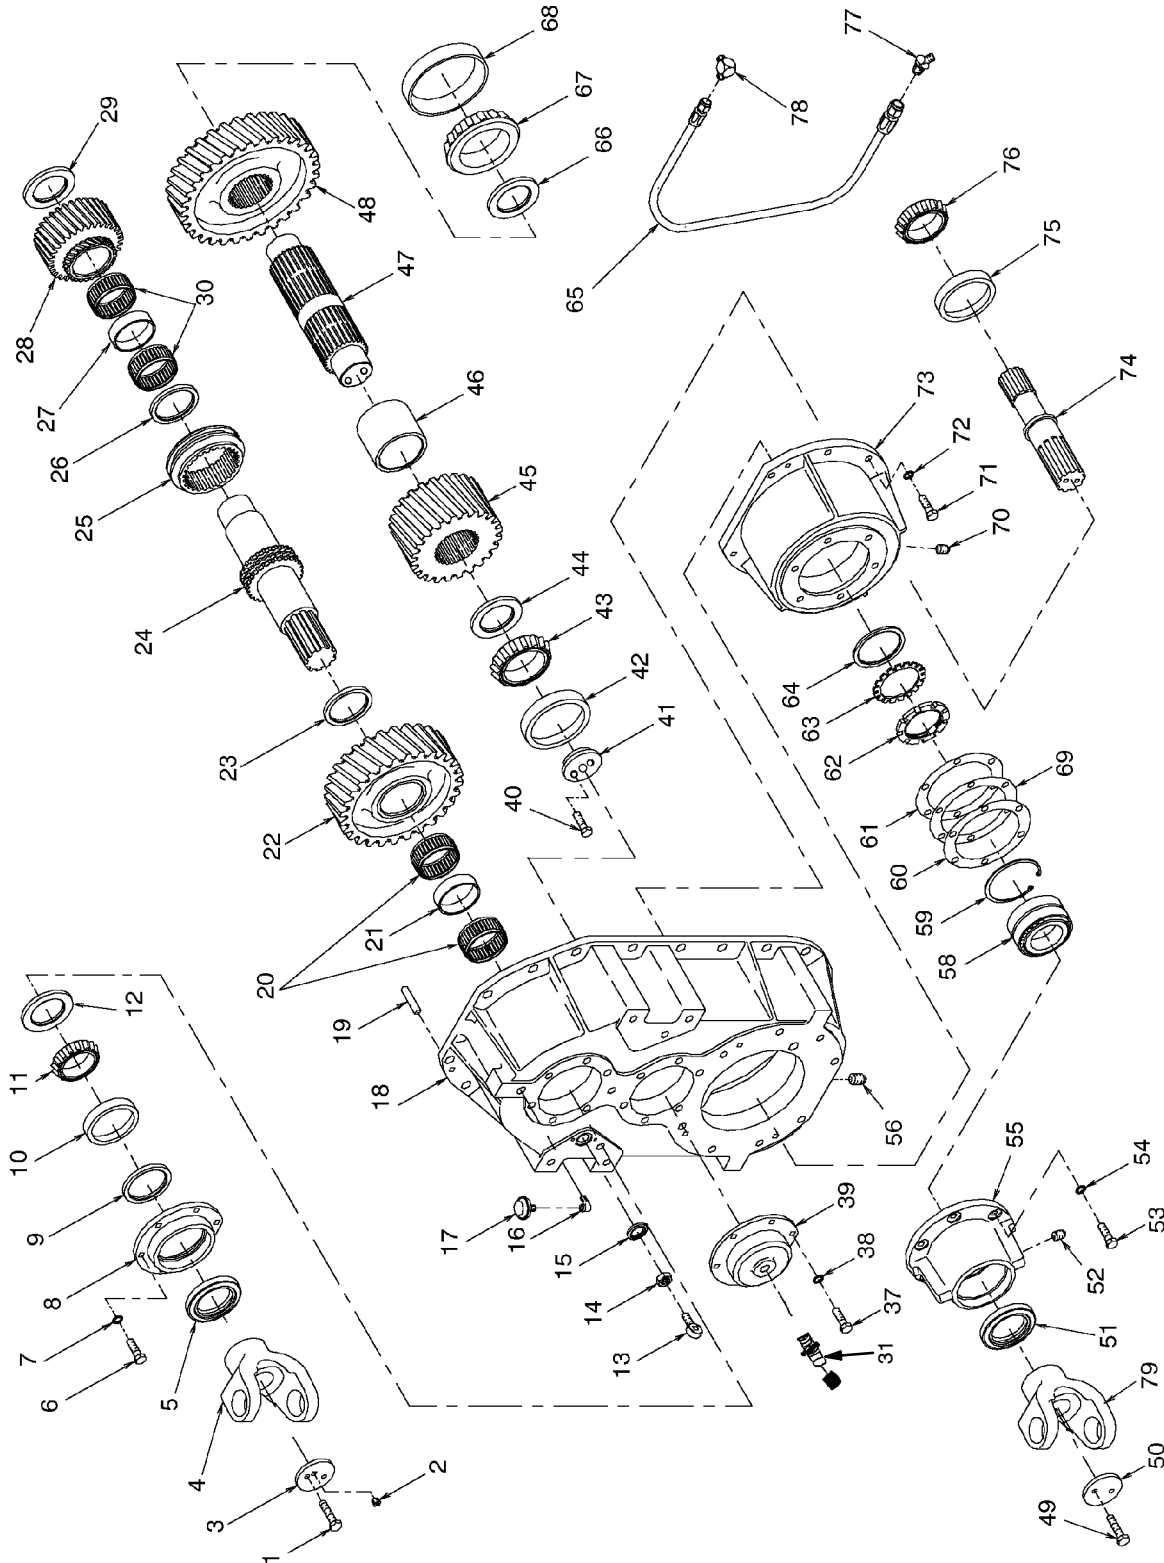
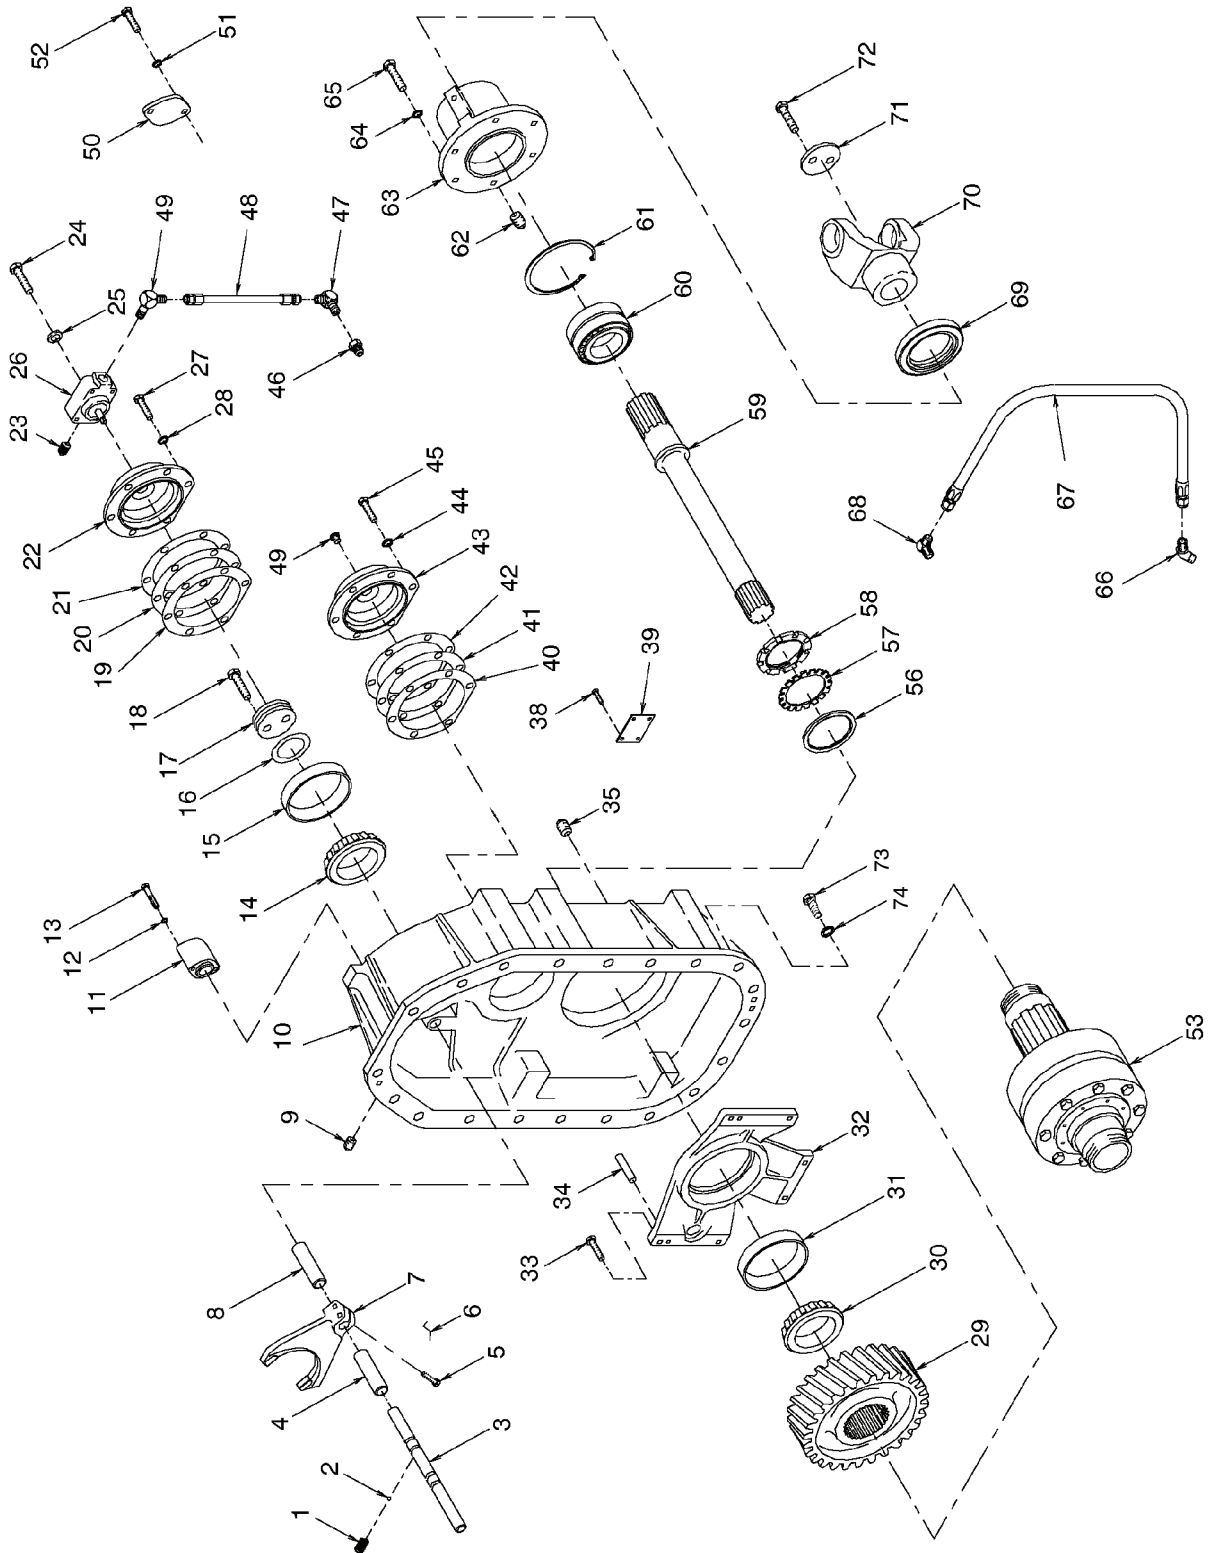

Figure 2. Transfer Case Assembly.
Figure 3. Transfer Case Assembly.
## Legend for Figure 2.
## Legend for Figure 3.
- (1) Position transfer case in maintenance stand, with front housing (Figure 2, Item 18) facing up.
- (2) Remove two capscrews (Figure 2, Item 1), retainer washer (3) from upper shaft (24).
- (3) Using a puller, remove yoke (Figure 2, Item 4) from upper shaft (24).
- (4) Remove two capscrews (Figure 2, Item 49), lock plate (50) from shaft (74).
- (5) Using a puller, remove yoke (Figure 2, Item 79) from shaft (74).
- (6) Tag and disconnect hose (figure 2, Item 65) from adapters (77 and 78).
- (7) Remove six capscrews (Figure 2, Item 53), lockwashers (54), bearing cup (55), three shims (60, 69 and 61), and lower output shaft assembly from differential assembly (Figure 3, Item 53) and enclosure (Figure 2, Item 73).
- (8) Remove eight capscrews (Figure 2, Item 71), lockwashers (72) from enclosure (73) and front housing (18).
- (9) Install jack bolts in holes on enclosure (Figure 2, Item 73) and tighten alternately to separate enclosure from front housing (18) and dowel pin. Remove enclosure (73).
- (10) Using a suitable lifting device, remove differential assembly (Figure 3, Item 53) from transfer case.
- (11) Remove sending unit (Figure 2, Item 31), from end cap (39).
- (12) Remove six capscrews (Figure 2, Item 37), lockwashers (38), and end cap (39) from front housing (18).
- (13) Remove oil seal (Figure 2, Item 5), six capscrews (6), lockwasher (7) and end cap (8) from front housing (18).
- (14) Loosen jam nut (Figure 2, Item 14) and remove rod end (13) and oil seal (15) from upper shift rod (Figure 3, Item 3) and front housing (Figure 2, Item 18).
- (15) Remove elbow (Figure 2, Item 16), breather (17), plug (56), and adapters (77 and 78) from front housing (18).
- (16) Position transfer case in maintenance stand with rear housing (Figure 3, Item 10) facing up.
- (17) Tag and disconnect hoses (Figure 3, Items 67 and 48) from adapters (66,68,47 and 49).
- (18) Remove outer detent plug (Figure 3, Item 9), spring (1) and ball (2) from rear housing (10).
- (19) Remove two capscrews (Figure 3, Item 13), lockwashers (12) and upper shift cover (11) from rear housing (10).
- (20) Remove two capscrews (Figure 3, Item, 72), lock plate (71) from shaft (59).
- (21) Using a puller, remove yoke (Figure 3, Item 70) from shaft (59).
- (22) Remove six capscrews (Figure 3, Item 65), lockwashers (64), bearing cap (63) and lower rear output shaft assembly from transfer case and rear housing (10).
- (23) Remove six capscrews (Figure 3, Item 45), lockwasher (44), end cap (43), shims (42, 41, and 40) from housing (10).
- (24) Remove two adapters (Figure 3, Items 66 and 68), Plug (35), screw (52), lockwasher (51), declutch opening cover (50) and adapter (47), strainer (46) from rear housing (10).
- (25) Remove adapter (Figure 3, Item 49) and plug (23) from hydraulic pump (26).
- (26) Remove four capscrews (Figure 3, Item 24), lockwashers (25) and hydraulic pump (26) from bearing cover (22).
- (27) Remove six capscrews (Figure 3, Item 27), lockwashers (28), bearing cover (22) and shims (21, 20 and 19) from rear housing (10).
- (28) With rear housing (Figure 3, Item 10) facing up, remove 20 capscrews (Figure 3, Item 73), and washers (Figure 3, Item 74) from front housing (Figure 2, Item 18) and rear housing (Figure 3, Item 10).